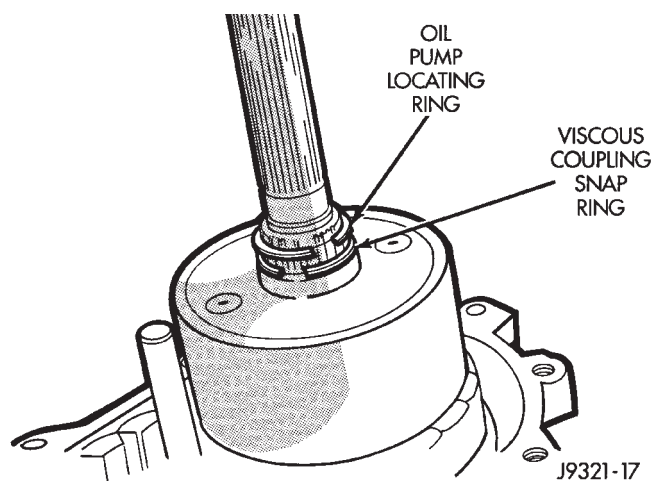

Fig. 83 Viscous Coupling And Oil Pump Ring Installation
(1) Lubricate mainshaft splines with transmission fluid.
(2) Install coupling on mainshaft (Fig. 83).
(3) Install coupling retaining snap ring first (Fig. 83). Be sure snap ring is fully seated before proceeding.
(4) Install oil pump locating snap ring on mainshaft (Fig. 83).